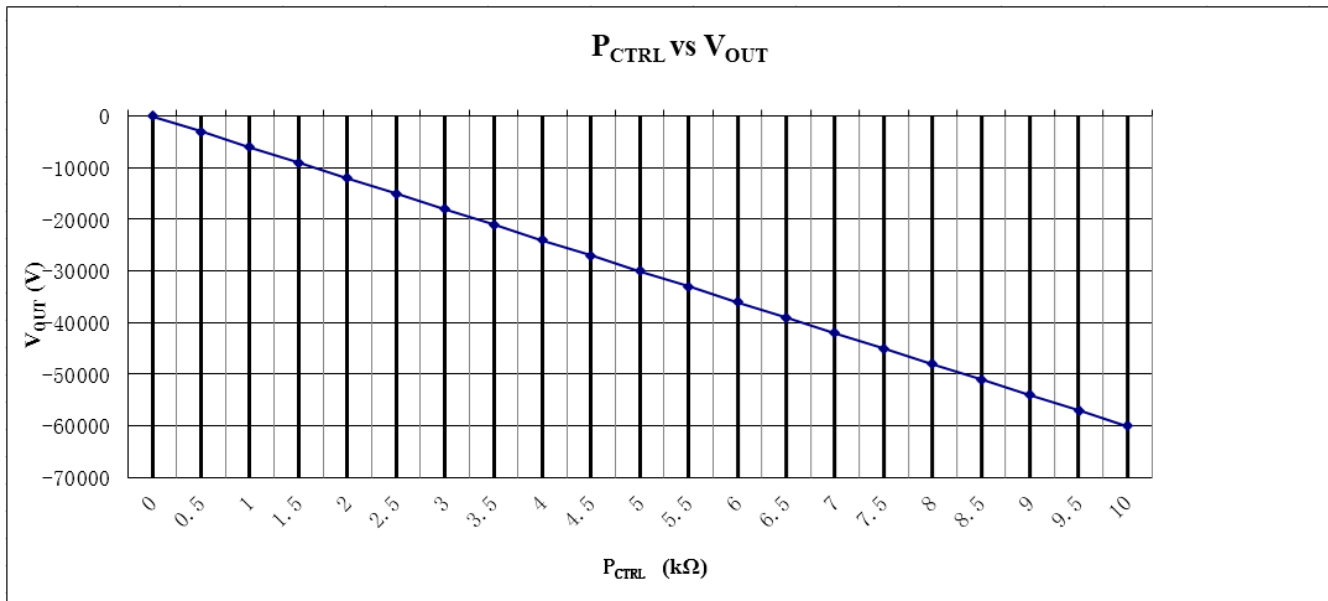

Figure 4. P_{CTRL} vs. V_{OUT}
5. HV adjustment: 10-turn potentiometer for adjusting output voltage. Rotate it clockwise to increase the output voltage, and the potentiometer resistance = the corresponding scale \times 10 Ω . For example, as Figure 4 shows, when the scale is 10, and the frame above the scale shows 1 (1k Ω), then the resistance = $10 \times 10\Omega + 1k\Omega = 1.1k\Omega$, and the like.